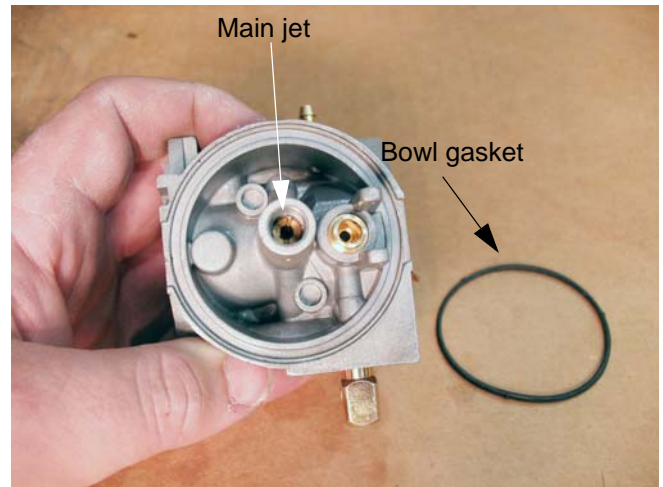

Figure 4.15
- Remove the main jet using a narrow-shank straight blade screwdriver. See Figure 4.15.